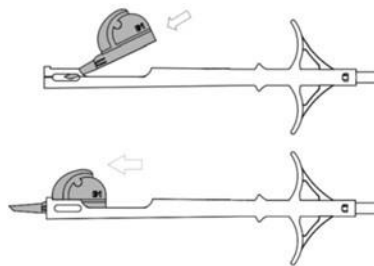

Fig. 2
10. Insert the locked cartridge into the loading bay of the injector body as shown in Fig. 2.